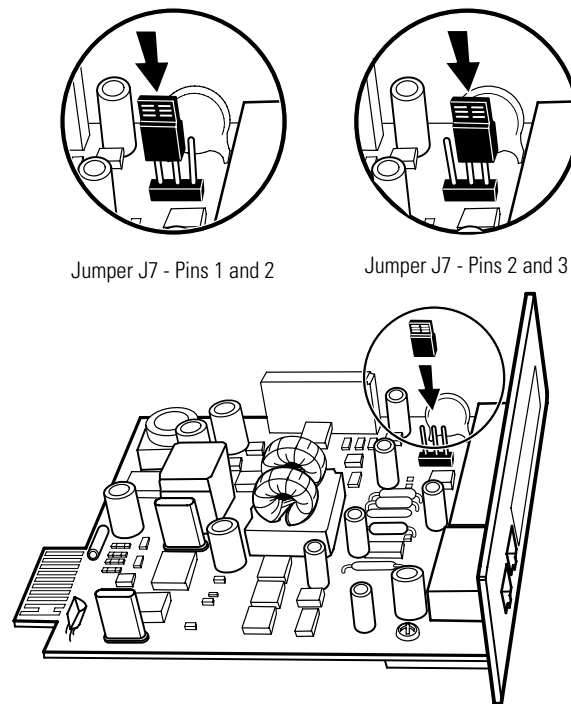

Figure 40. Setting the CAN Bridge Card Jumper J7 (Side View)
5. Set the jumper pins on the Powerware Hot Sync CAN Bridge Card according to the parallel configuration (see Figure 40):